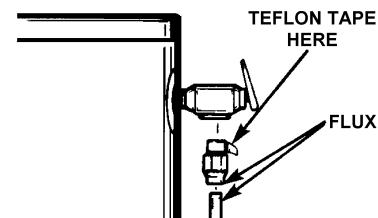

FIGURE 13.
11. Flux the ends of the length of pipe cut for the T & P and the inside of the 3/4\" male threaded to sweat connector and 90° sweat elbow. See Figure 13. Then solder this assembly together. Do not screw the connector into the Temperature Pressure Relief Valve before the assembly is soldered together.
12. Using your pipe wrench, screw the assembly into the Temperature-Pressure Relief Valve. See Figure 13.